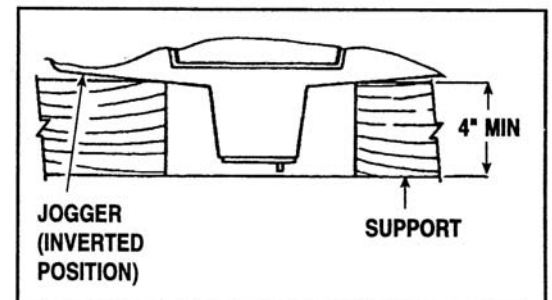

FIGURE 1: SUPPORTING JOGGER w/TILTED DECK IN INVERTED POSITION
If the jogger is equipped with a flat deck, it is not necessary to remove the deck. If it is equipped with a tilted deck, it is necessary to remove the deck and deck adaptor (B). Place the jogger drive assembly in an upside-down position. If the jogger is equipped with a tilted deck, supports are required to keep the jogger balanced while it is upside-down. Refer to Figure 1.
1. Place the cover (A) (or cover and deck in the case of joggers with flat decks) upside down. Refer to Figure 1. Ensure that the spacers (Q, P) are arranged on the studs (R, S) as explained in the directions for replacing rubber mounts on page 2.
2. Use the eyebolts and lifting device to suspend the base (DD) and magnet assembly (FF) over the cover (A).
4. Replace the six hex nuts and lockwashers (Y) on the six studs (R, S).
5. Remove the eyebolts and replace each of with a rubber foot (AA).
6. With the jogger in an upright position, replace the deck adaptor (B) and deck (if it was removed), using the lockwasher and cap screw (C).